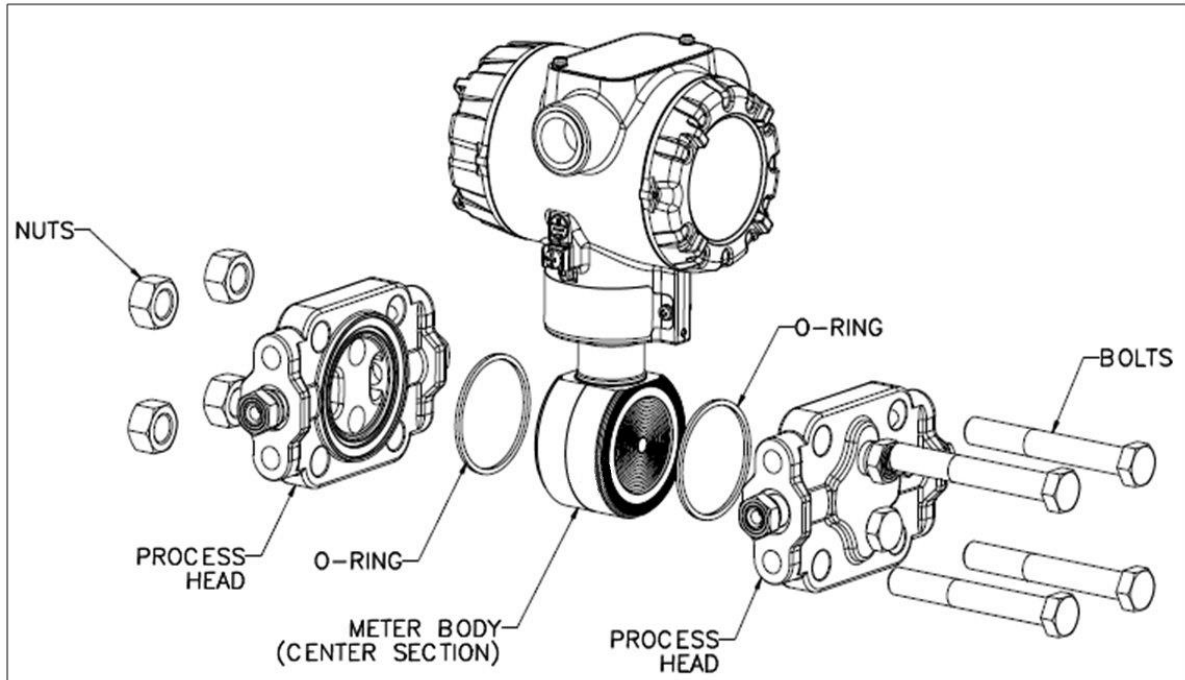

Figure 21 – DP Transmitter Head Disassembly
The following procedure comprises the general steps for inspecting and cleaning barrier diaphragms. You may have to modify these steps to meet your particular process or transmitter model requirements. Figure 21 shows an exploded view of a Differential Pressure (DP) transmitter meter body for reference. For disassembly/reassembly purposes, Gauge Pressure (GP) and Absolute Pressure (AP) transmitters are similar.